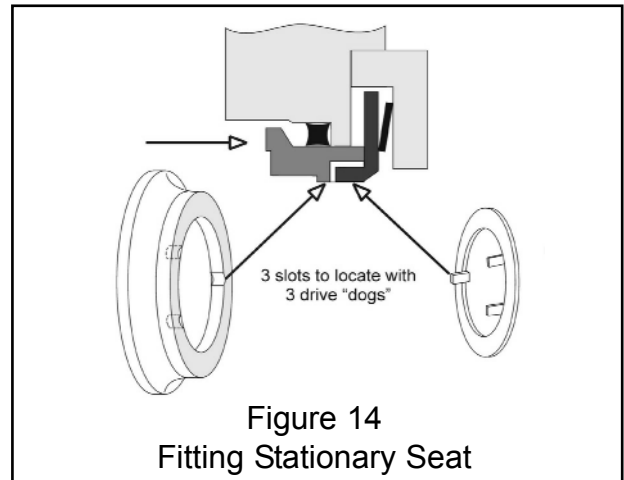

Figure 14
- a) Fit the joint ring (83) to static primary seal face and lubricate bore in the rotor case with a suitable lubricant compatible with the pumped fluid and the elastomer. Do not use mineral-oil based lubricants on EPDM joints.
- b) Align slots in seal face with 'dogs' of drive plate in seal housing; a small cut-out is provided so one drive dog can be seen (See figure 14). Push each seal seat in straight; when correctly fitted, seal seats should slide freely against the resistance of their springs.